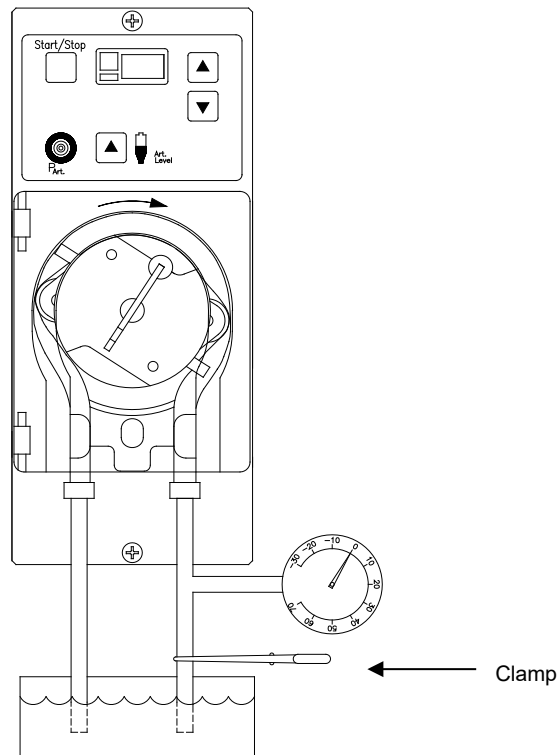

Figure 9. Blood Pump Rotor Occlusion Test
- Connect a pressure gauge to the bloodline in the pump (See Figure 9) and allow the rotor to pull up 37°C ± 1.5°C water. Let this fluid flow past the pressure gauge long enough to clear out air.
- With the pump running at 600ml/min, clamp the outlet so that the pressure gauge is between the output of the pump and the clamp (See Figure 9). The peak pressure on the gauge must be between 25 and 35psi. If the peak pressure is out of range, replace the blood pump rotor springs (part number 650174).